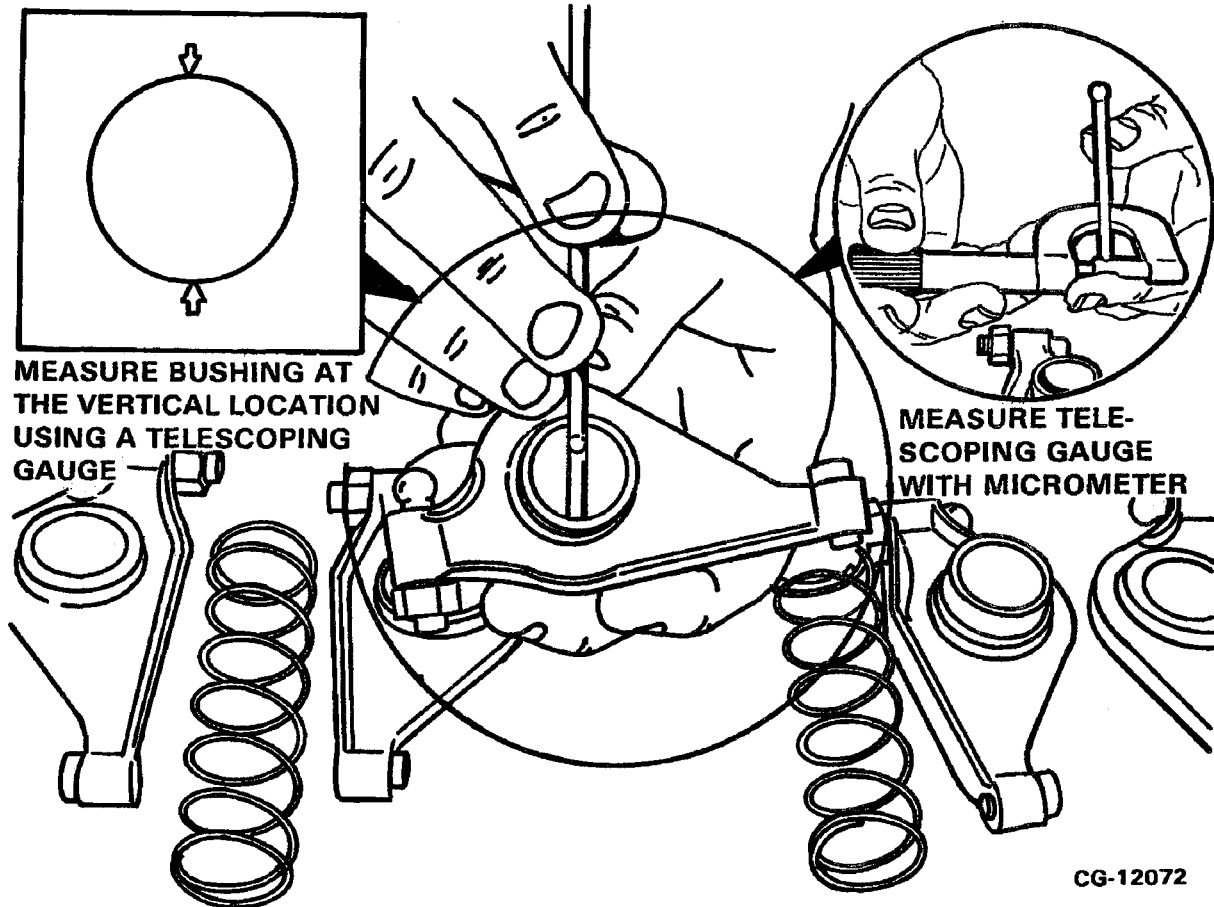

Figure 5.5. Measure Rocker Arm Bushing
3. Measure rocker arm bushings using a telescoping gauge and outside micrometer as shown in **Figure 5.5**. Measure the bushings at the vertical location and record the readings.